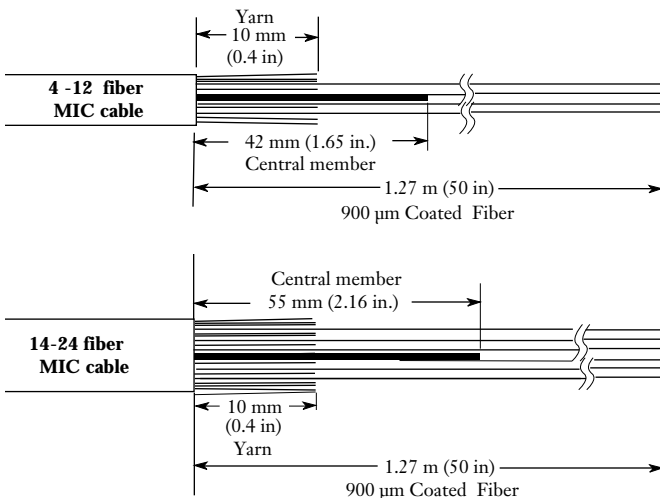

Figure 6
4.13 Refer to SRP-004-024, *Sheath Removal Procedure for Siecior Single Layer MIC Cables*. Strip the cable components to the lengths shown in Figure 6. To prepare the cable:
- Carefully cut the central member to the lengths shown in Figure 6.